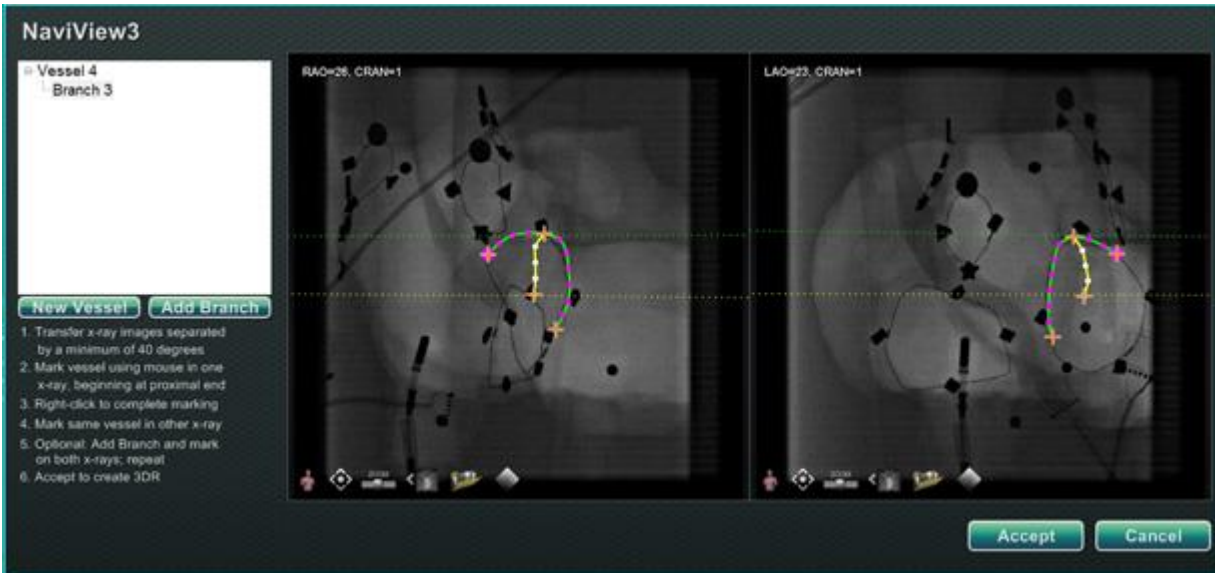

Figure 237. Draw complementary branch and click **Accept**
Add branches guide (Figure 232 – Figure 237)
Step 4 (Figure 237)